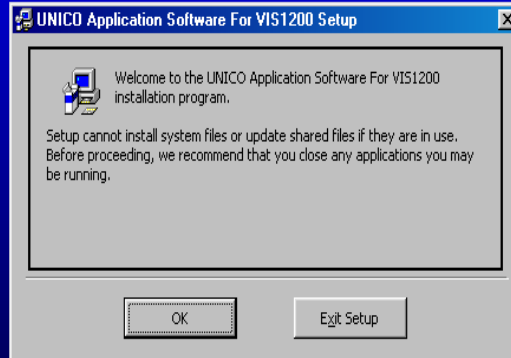

Figure-5 Setup Screen
- Step 5: The **Setup Screen** (Figure-5) will then display a “Welcome” message reminding you to close any open programs. If all programs are closed, then click **OK** and go to **Step 6**. If other programs are open and operating, click **Exit Setup**, close the open programs and return to **Step 2**.